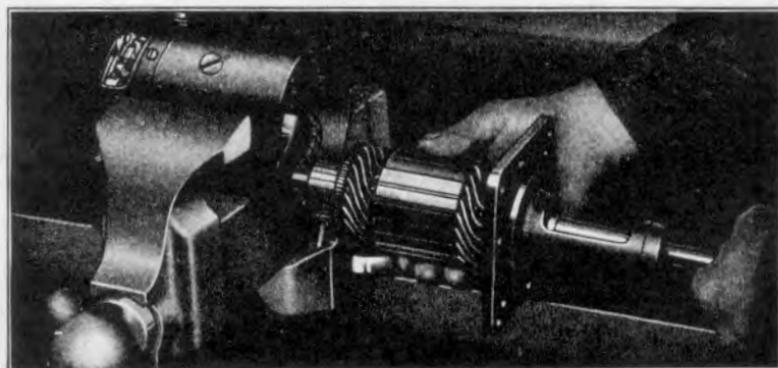

Fig. 488
- 957 Mounting bracket and armature can now be withdrawn from yoke (See Fig. 488). If armature sticks in yoke it can be loosened by tapping edge of yoke against bench.